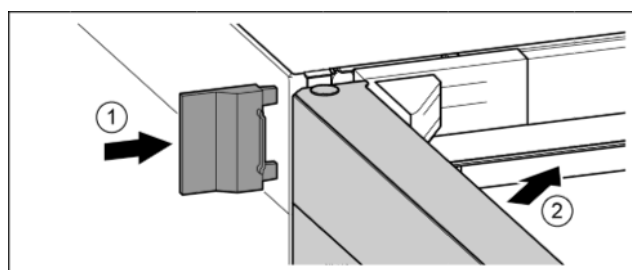

Fig. 18
- ▶ Push the external cover on. Fig. 18 (1)
- ▶ Close the upper door. Fig. 18 (2)